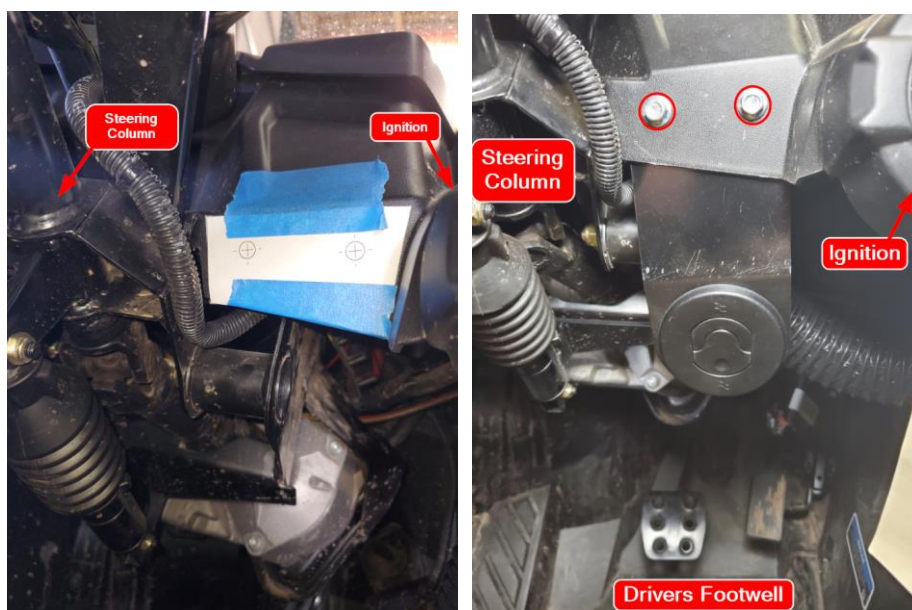

Figure 12
32. Drill Template 2 with a 7/16" drill bit as shown in **Figure 12.**
33. Attach HT_CU_443-2 LH Defrost Bracket with qty 2 ¼ x 1" serrated flange bolts and nuts as shown in **Figure 12**.